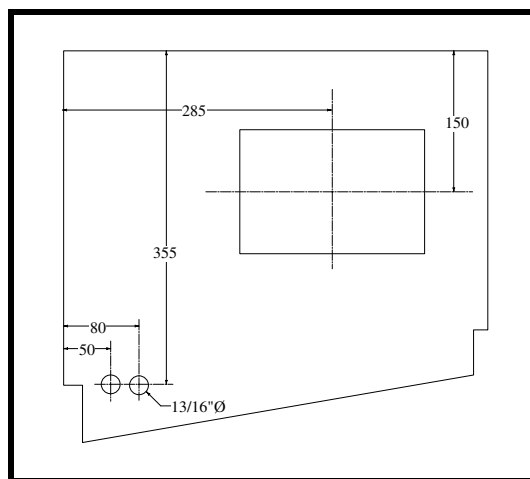

Figure 30
- ❑ Locate the center of the battery at 285mm aft of Sta. 8 and at B.L. 150. Draw the outline of the battery you plan to use. The Gill PS6-11 is 9.75" by 5.00", the Gel/Cell U-128 is 7.66" x 5.13" and the Electro Marketing is 7.75" x 5.2". In all cases, the long dimension runs fore-and-aft. See Figure 30.
- ❑ Drill two 13/16"Ø holes as shown in Figure 30. These are for MS35489-14 grommets for the main battery wires.